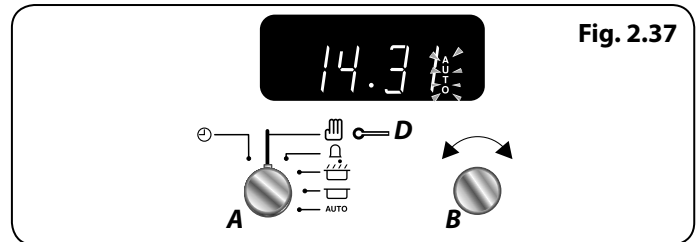

Fig. 2.37
5. Once the specified time has elapsed it will emit an alarm and the Multifunction Oven will stop working. The 'Cooking' symbol on the display will disappear and the word 'AUTO' will flash (Fig. 2.37).
6. When you return, turn the **Timer (A)** knob to the **Manual (D)** setting to return to manual cooking and reset the Multifunction Oven modes once cooking is complete (Fig. 2.37).
To cancel any automatic settings turn the **Timer (A)** knob to the **Clock (C)** setting and release (Fig. 2.37).